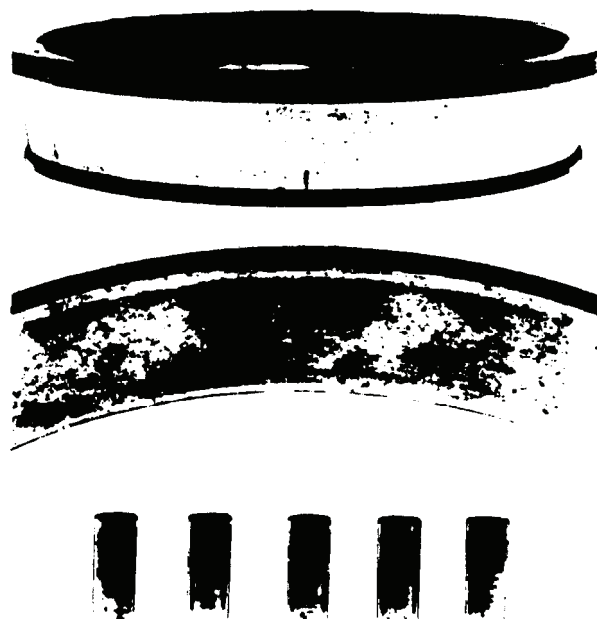

Figure 43.
- (2) Visible step wear, particularly at the small end of the roller track or deep indentations, cracks or breaks in the bearing cup and/or cone surfaces. Refer to Figure 43.